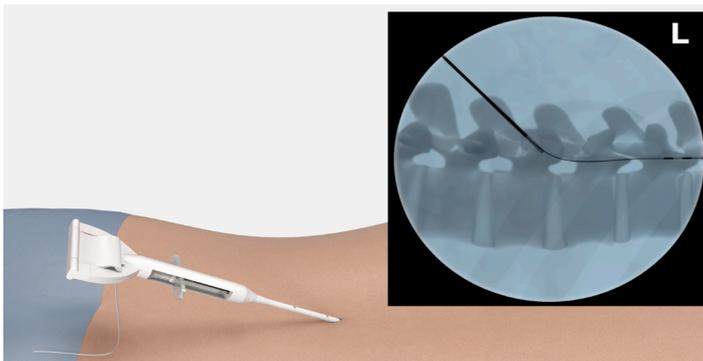

Figure 7
8. Deploy the SandShark Anchor by pulling back on the handle (see Figure 7).